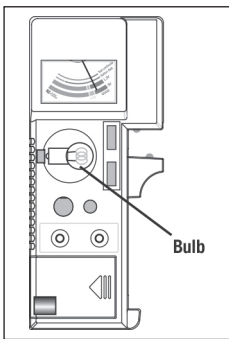

Fig. 4
1. Place the two bulb terminals against two of the three lightbulb test contacts (8), depending on the type of bulb (Fig. 4).
2. To read the state of the bulb, observe the position of the gauge (7) needle against the scale band marked "Test continuity".